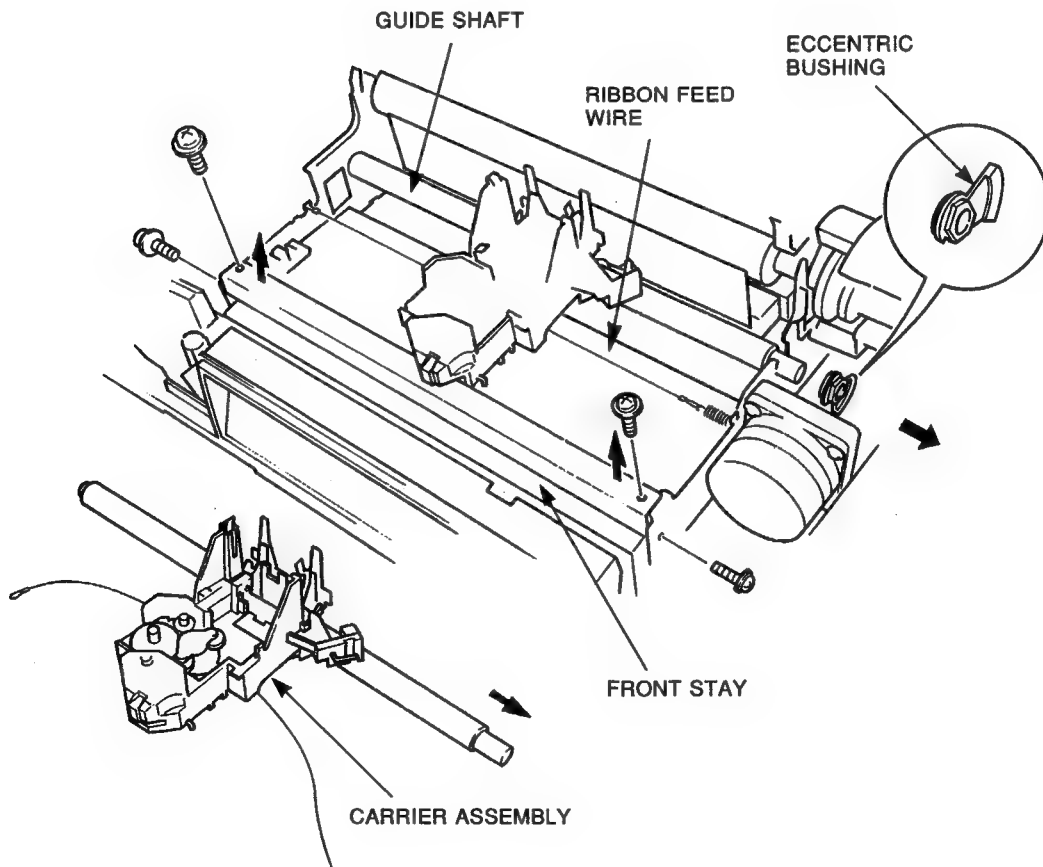

Figure 3-22 Carrier Assembly
1. Turn the eccentric bushing until the tab on the bushing aligns with the slot on the right side frame (see Figure 3-22).
4. Remove the front stay by removing the four mounting screws (see Figure 3-22).